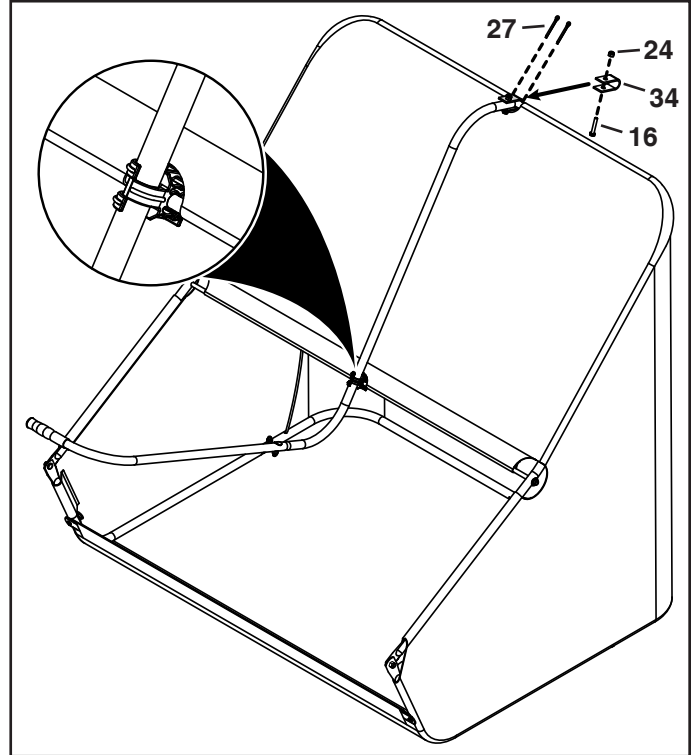

FIGURE 16
26. Attach the dump tube to the upper hopper frame using a U-clamp (34), 1/4" x 1-1/2" hex bolt (16) and a 1/4" nylock nut (24).
27. Snap the dump handle clip onto the pivot rod. See figure 16.